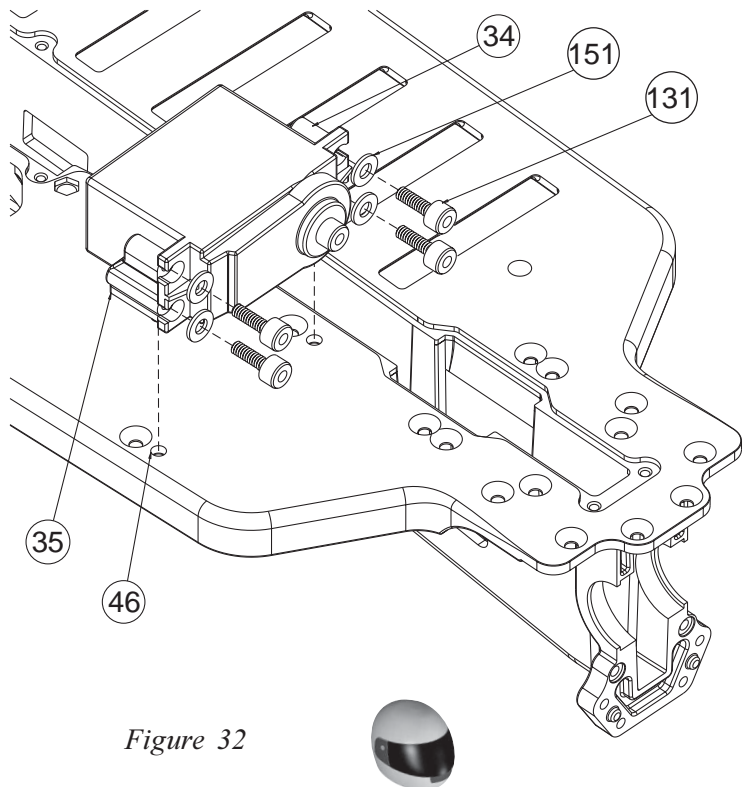

Figure 32
2. Place a #4 Washer (151) over each of the four 4-40 x 3/8" Cap Head Screws (131) and attach the Servo Mounts to the servo by threading a Screw with Washer through the servo mounting ears into the upper and lower holes in each Mount. **Do not tighten the screws yet!** Just snug them up so that the Mounts are held in place, but can still be moved from side to side with a little resistance.
3. As shown in Figure 32, you will use the bottom side of the Chassis to determine the exact spacing needed for your brand servo. With the Screws still loose, push the pins on the Servo Mounts into the holes in the bottom of the Chassis (46). Slide the Mounts until the Screws are centered on the servo, and tighten as indicated in Figure 32.